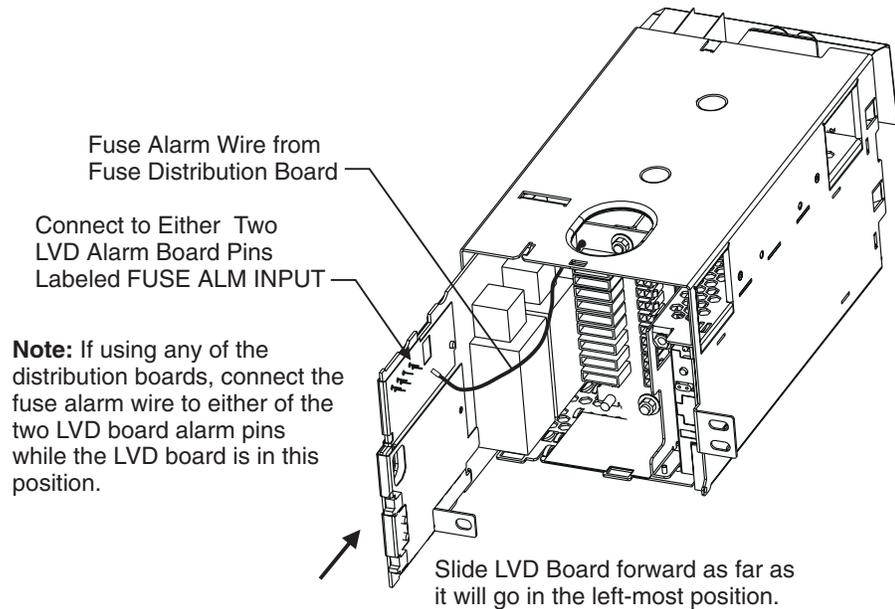

Figure 5-20: LVD Board Installation
1. Refer to Figure 5-20 to begin. Note the card guides on the leftmost slot of the Aux Box, insert LVD card until it is prevented from being inserted any further. A tab on the top-front of the LVD card will hit the chassis to prevent it from being inserted any further.